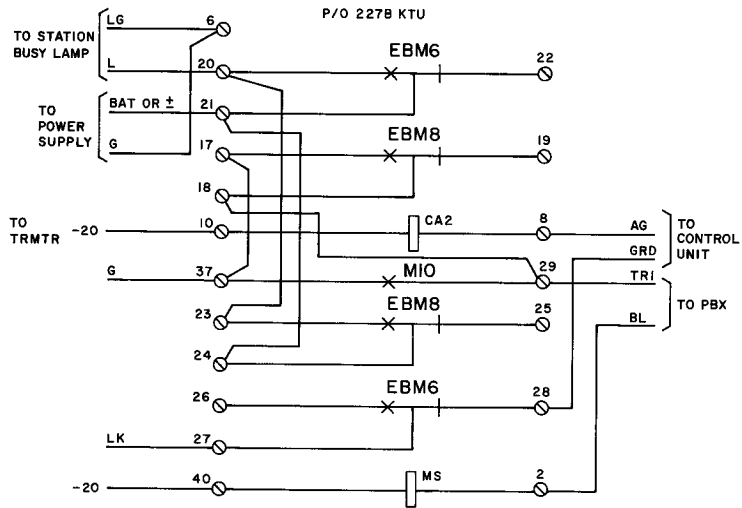

Fig. 5—Auxiliary Relay Circuit for Use With 750A or 755A PBX
2.14 An auxiliary relay is required when 3-type speakerphone service is provided with a 750A or 755A PBX. For connections refer to Fig. 5.